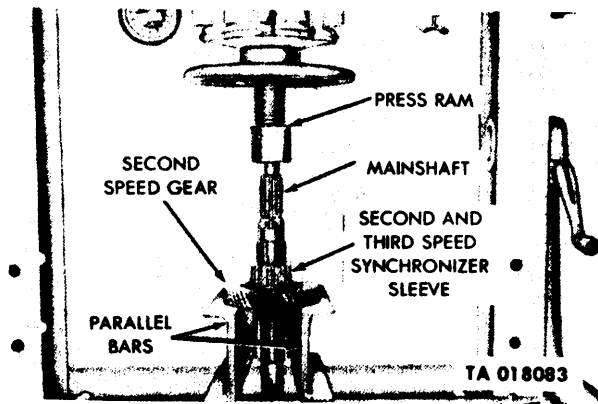
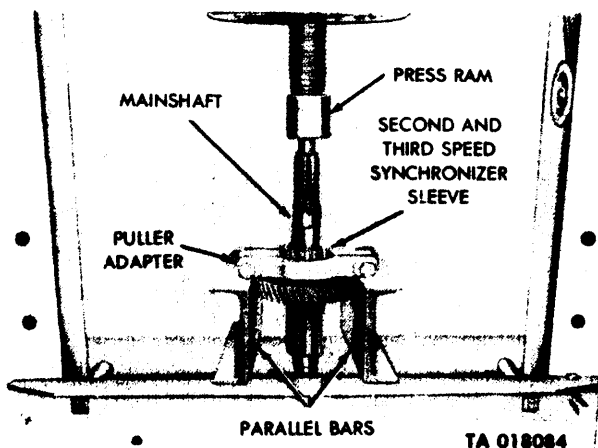

Figure 3-36. Removal Second-Speed Gear, Second and Third-Speed Synchronizer and Synchronizer Sleeve.
Figure 3-37. Removal of Second-Speed Gear, Second and Third-Speed Synchronizer and Synchronizer Sleeve.
(3) Slide second- and third-speed synchronizer free of mainshaft. Using a pair of pliers, remove the snapping which holds the second-speed synchronizer sleeve in position. Set up press as shown in figure 3-36. Press second- and third-speed synchronizer sleeve approximately 1/4 inch. Do not press second-speed gear onto woodruff keys of mainshaft. Install the puller on second and third speed synchronizer sleeve as shown in figure 3-37. Continue to remove synchronizer sleeve from shaft and remove the two woodruff keys, then remove second-speed gear.
(1) Slide the second speed gear on the mainshaft. Coat the second- and third-speed synchronizer sleeve bore and mainshaft with a light coating of grease, artillery and automotive (GAA), MIL-L-10924. Start the sleeve on the mainshaft. Place into the press, face down, between two parallel bars. Press sleeve into position and secure it using a new snapping. See figure 3-37 for positioning of the second- and third-speed synchronizer.
3-17. Repair and Replacement Standard Points of Measurement. Figures 3-37, 3-48, 3-49, and 3-50 and corresponding tables 3-1, 3-2, 3-3, and 3-4 provide the repair and replacement points of measurement for transmission models 3052 and 3053A.